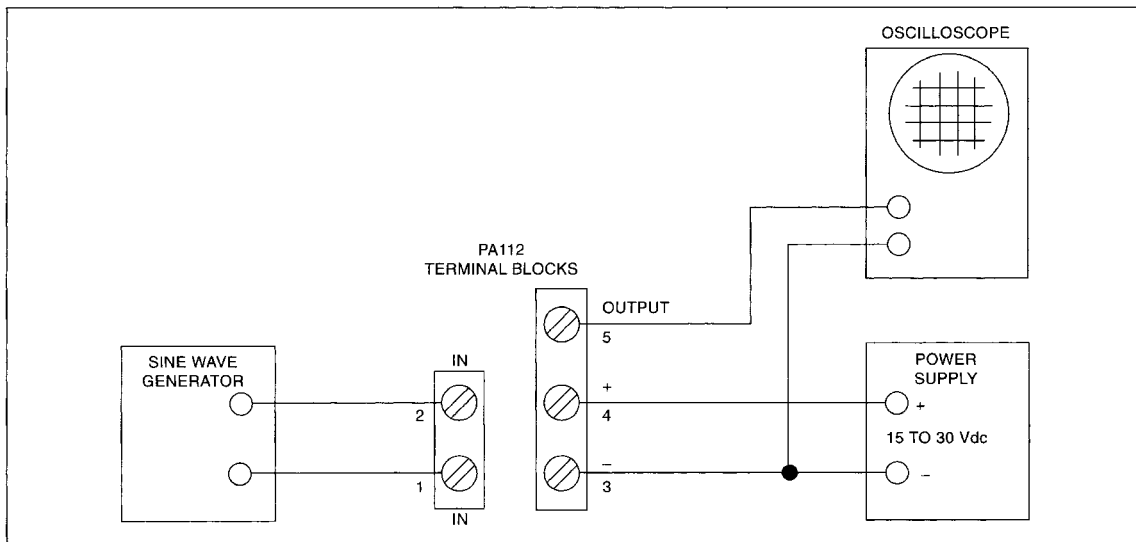

Figure 6. PA112 Test Setup
1. Connect the PA112 and the test equipment as shown in Figure 6. Set the power supply to +20 Vdc.